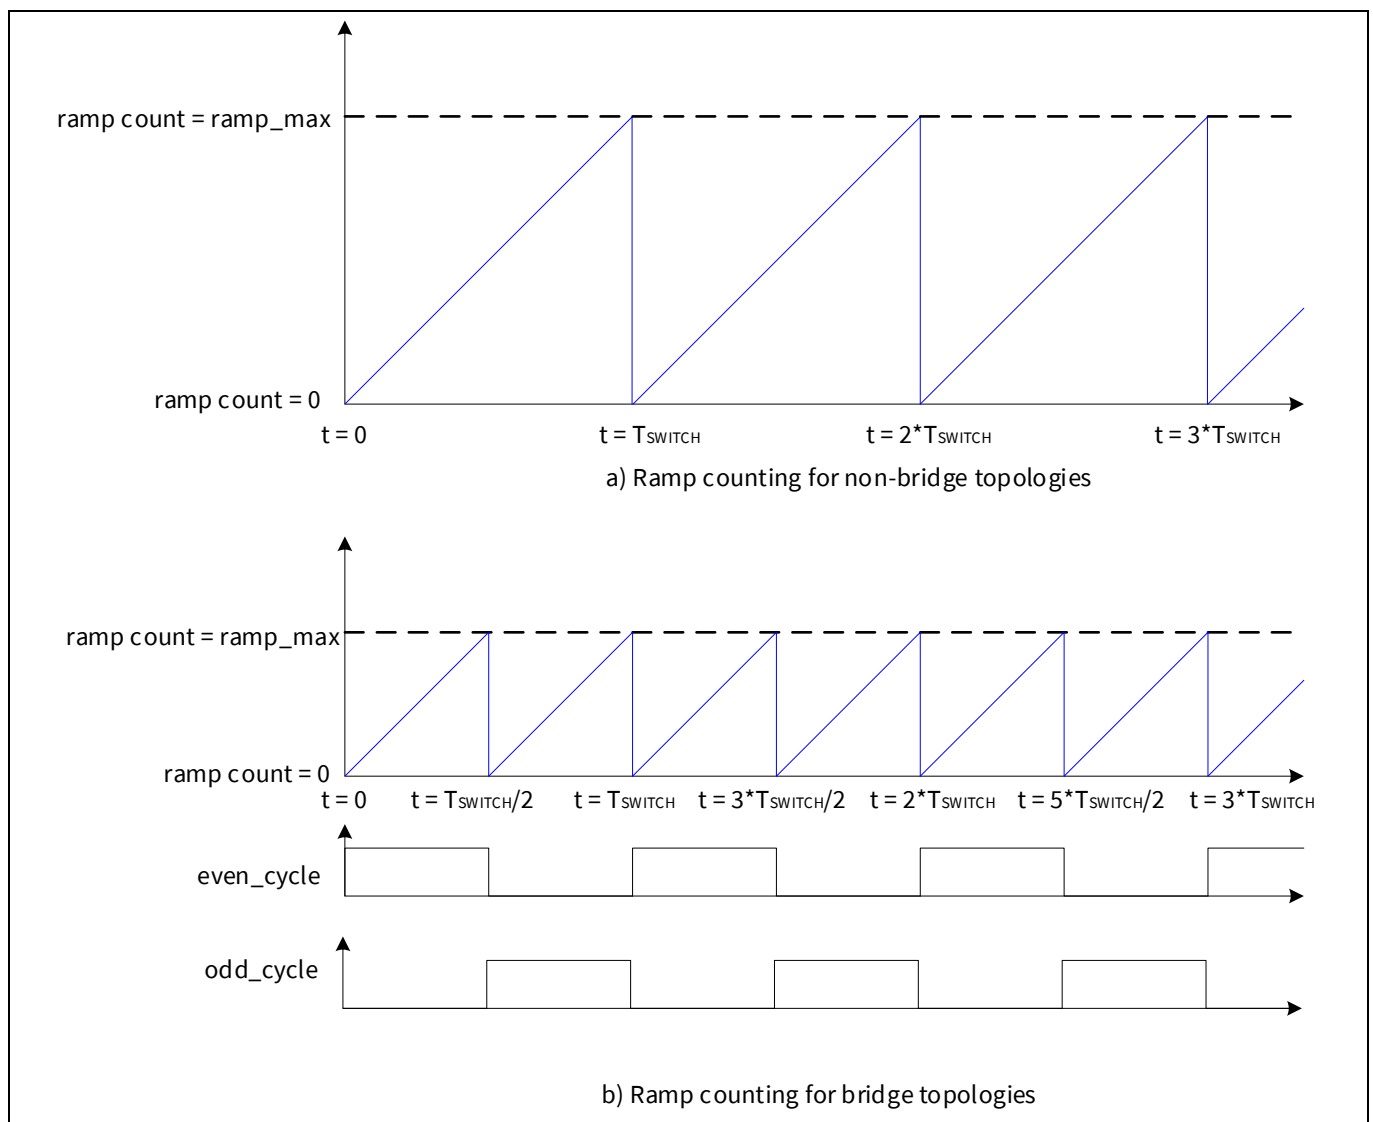

Figure 55 Ramp counter for a) non-bridge and b) bridge topologies
In order to generate the PWM pulses, the ramp generator produces the timing information based on a timing ramp. This timing ramp consists of a digital counter which counts from $t = 0$ up to the maximum ramp count, ramp_max, before returning to 0 and counting up again. The ramp counter functionality is illustrated in Figure 55.
- For non-bridge topologies (buck, ACF, etc.) the ramp period is equal to the switching period (T_{switch}) and ramp_max is equal to a digital representation of T_{switch} , as shown in the upper part of Figure 55.
- For bridge topologies (HB, FB) the ramp period equals half of the switching period ($T_{\text{switch}}/2$) and ramp_max equals a digital representation of $T_{\text{switch}}/2$, as shown in the lower part of Figure 55.
In bridge mode, the two halves of the switching cycle are identified as either the even half-cycle or the odd half-cycle, as shown in the bottom part of Figure 55. This identification is used by the pulse generator to produce pulses only on the correct half-cycle.